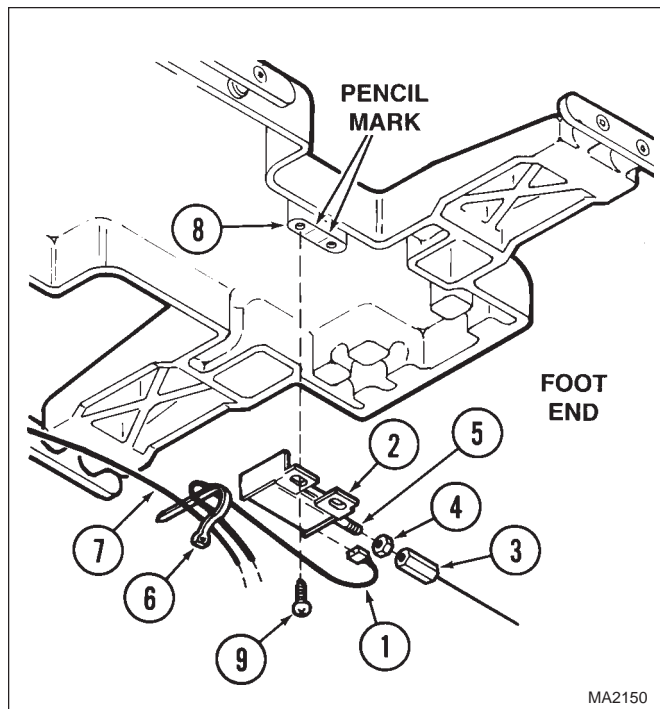

Figure 4-24. Foot Transducer Removal / Installation
- (1) Press the ENABLE button and then press the LATERAL TILT LEFT or LATERAL TILT RIGHT button until the lateral tilt function reaches the end of its travel.
- (2) Disconnect wire harness (1, Figure 4-24) from foot transducer (2).
- (3) While holding cable/turnbuckle assembly (3), loosen nut (4).
- (4) Unscrew cable/turnbuckle assembly (3) from transducer rod (5).
- (5) Cut cable tie (6) which secures wire harnesses (1 and 7) to foot transducer (2).
- (6) Using a pencil or sharp object, mark the present position of foot transducer (2) on the seat casting (8) by tracing the outline of the foot transducer mounting brackets.